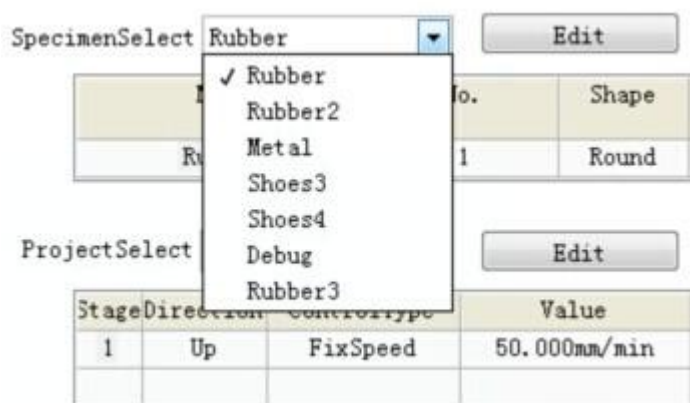

图 2
- ① Select the sample data or edit a new sample data, as shown in Figure 2
- ② choose a test program or edit a new control scheme, as shown in Figure 2